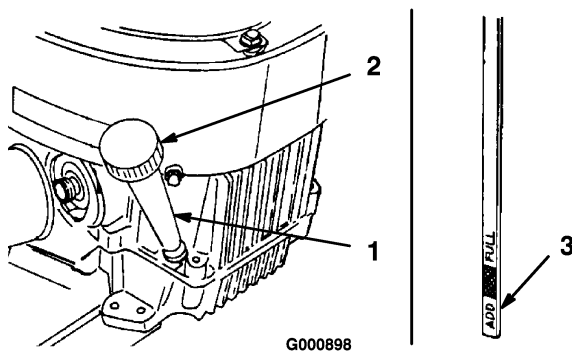

Figure 22
- Clean around the oil dipstick (Figure 22) so that dirt cannot fall into the fill hole and damage the engine.
- Unscrew the oil dipstick and wipe the metal end clean (Figure 22).